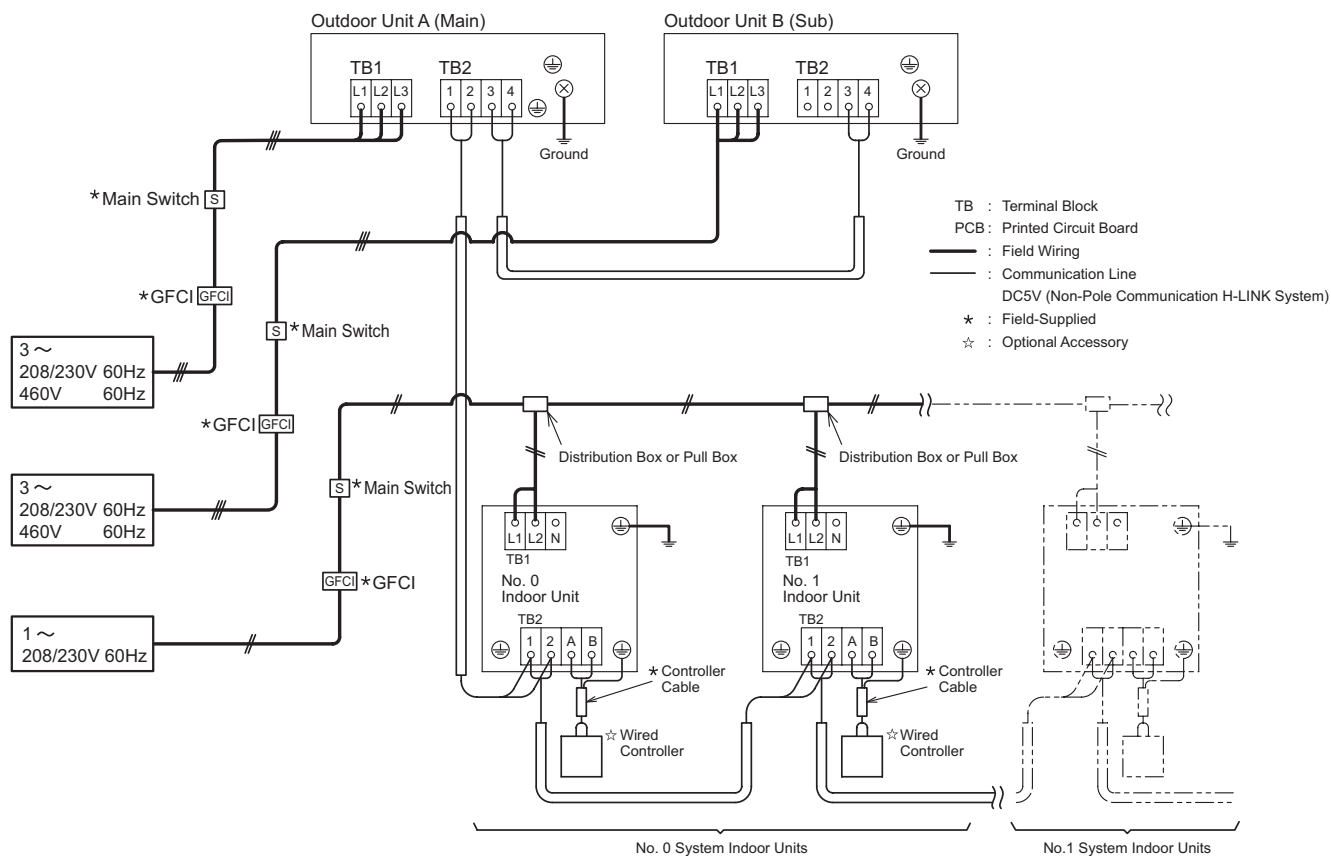

Figure 2.3 Illustration of Electrical Wiring Connections
- (3) Connect the communication cable between indoor units, and outdoor units, as shown in Figure 2.3.
- (4) Connect the communication cables in the same refrigerant system unit. (If the refrigerant piping of indoor unit is connected to the outdoor unit, also connect the communication cables to the same indoor unit.) Connecting the refrigerant piping and communication cables to the different refrigerant systems may lead to malfunction.
- (5) Use communication cabling that is a minimum of AWG18 (0.82mm²), 2-Conductor, Stranded Copper. Shielded cable must be considered for applications and routing in areas of high EMI and other sources of potentially excessive electrical noise to reduce the potential for communication errors. When shielded cabling is applied, proper bonding and termination of the cable shield is required as per Johnson Controls guidelines. Plenum and riser ratings for communication cables must be considered per application and local code requirements. (Do not use Tri-Core or anything beyond.)
- (6) Use the same kind of cables in the same H-LINK system.
- (7) Maintain at least 5 inch (127mm) between the communication cables and the power supply wiring, and also min. 5 ft (1.5m) between the communication cables and power supply wiring for other electrical device. If these cables are not secured, sleeve the power supply wiring into the metallic conduit tubing to separate them from the other cables. Make sure power supply wiring are well-grounded.
- (8) Connect the following communication cables to the terminals 1 and 2 on terminal block (TB2) in the outdoor unit A (main unit).
- (9) Do not connect the power supply wiring to the terminal block for transmission wiring (TB2). All the printed circuit boards in the same refrigerant system will be damaged.
- (10) Connect the ground wiring to the outdoor/indoor units. The ground wiring work under the condition of 100Ω (max.) ground resistance must be performed by a authorized personnel.